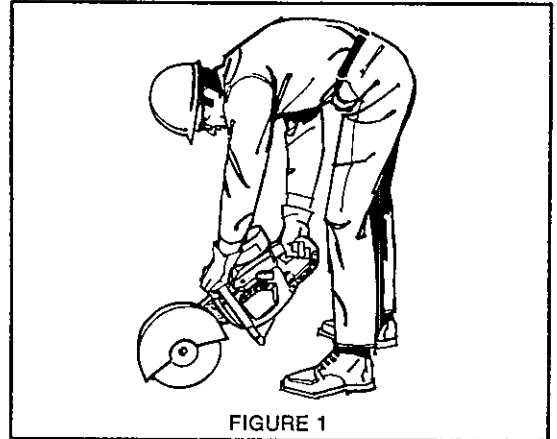

FIGURE 1
5. Do always use safety footwear, snugfitting clothing, safety goggles, and hearing and head protection devices while using a cutting-off machine. (Fig. 1)